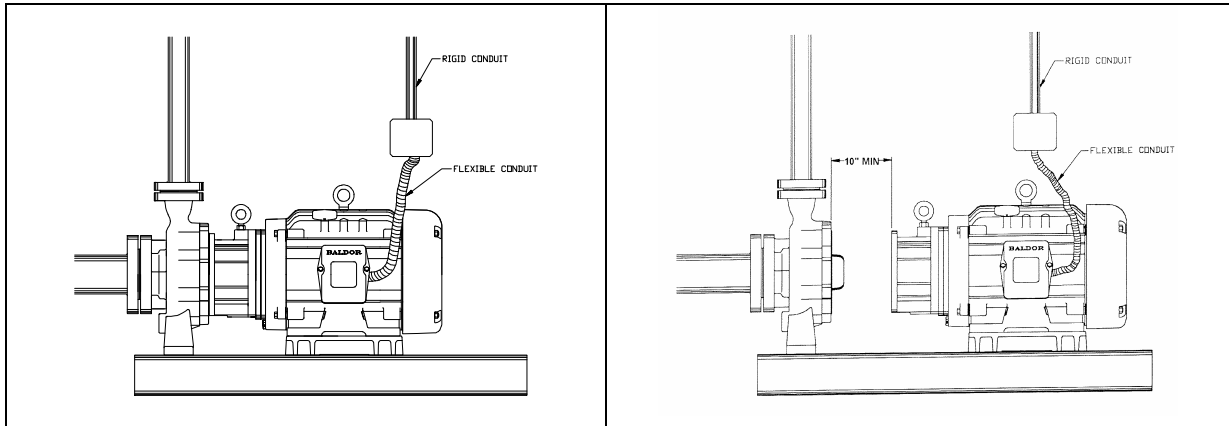

Figure 6-4: Flexible Electrical Connection on the Motor
- 3) The motor electrical wiring should include a flexible section near the motor to allow movement of 10" for servicing of the pump without disconnecting piping. The recommended installation is illustrated in Figure 6-4.